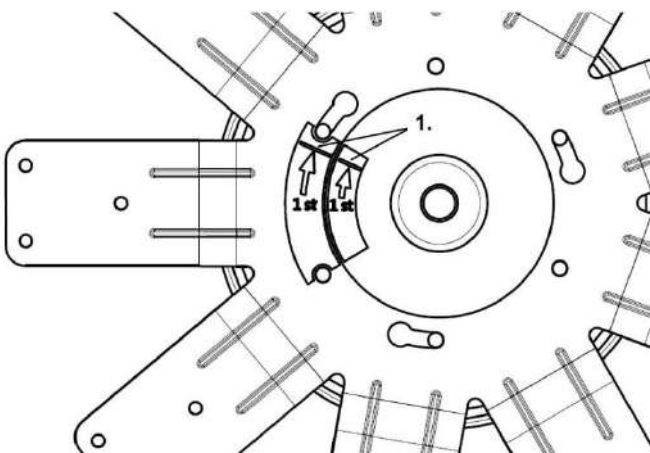
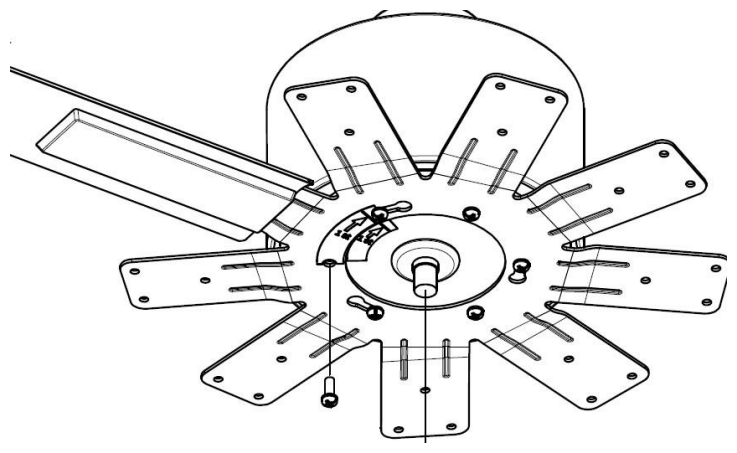

Fig. 15
Fig. 16
- Attach the blade holder to the motor by lining up the position label (1, Fig. 15) and secure it by tightening 6 screws (Fig. 16)